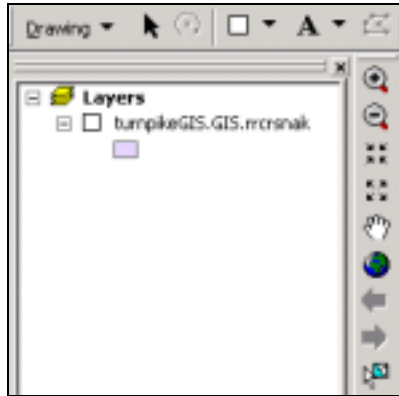

Figure 6. Feature Class without an alias name.
In ArcCatalog, we were able to create an alias name for our Feature Classes in our Geodatabase. This allowed us to make our Table of Contents window in ArcMap more useful and create legends in minimal time. For example, in our Geodatabase we have over 120 Feature Classes in our Species Models Dataset. It is difficult for a user to remember the common species name from the abbreviated file name; it is also difficult to remember if the species is endangered (E), threatened (T), a species of special concern (SSC), or not included on any list (N) (Figure 6). By having an alias name, the user is